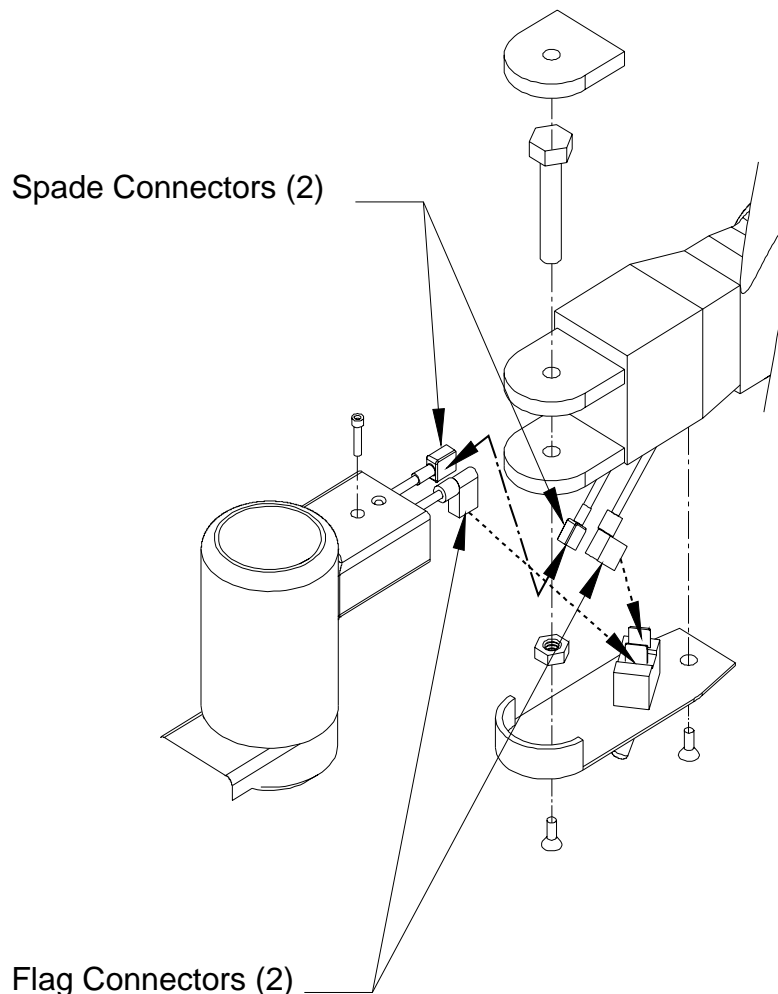

FIGURE 16: Light Head to Arm Electrical Connections
- One set of wires exits from the light head assembly, and two other sets exit from the arm/wire junction assembly. Connect the wires with spade connectors, one from the arm and one from the head as shown. Connect the wires with flag connectors on the switch box. Position the connectors in the junction housing to allow room for the switch. Replace the switch assembly cover and securely tighten the two screws. See figure 16.